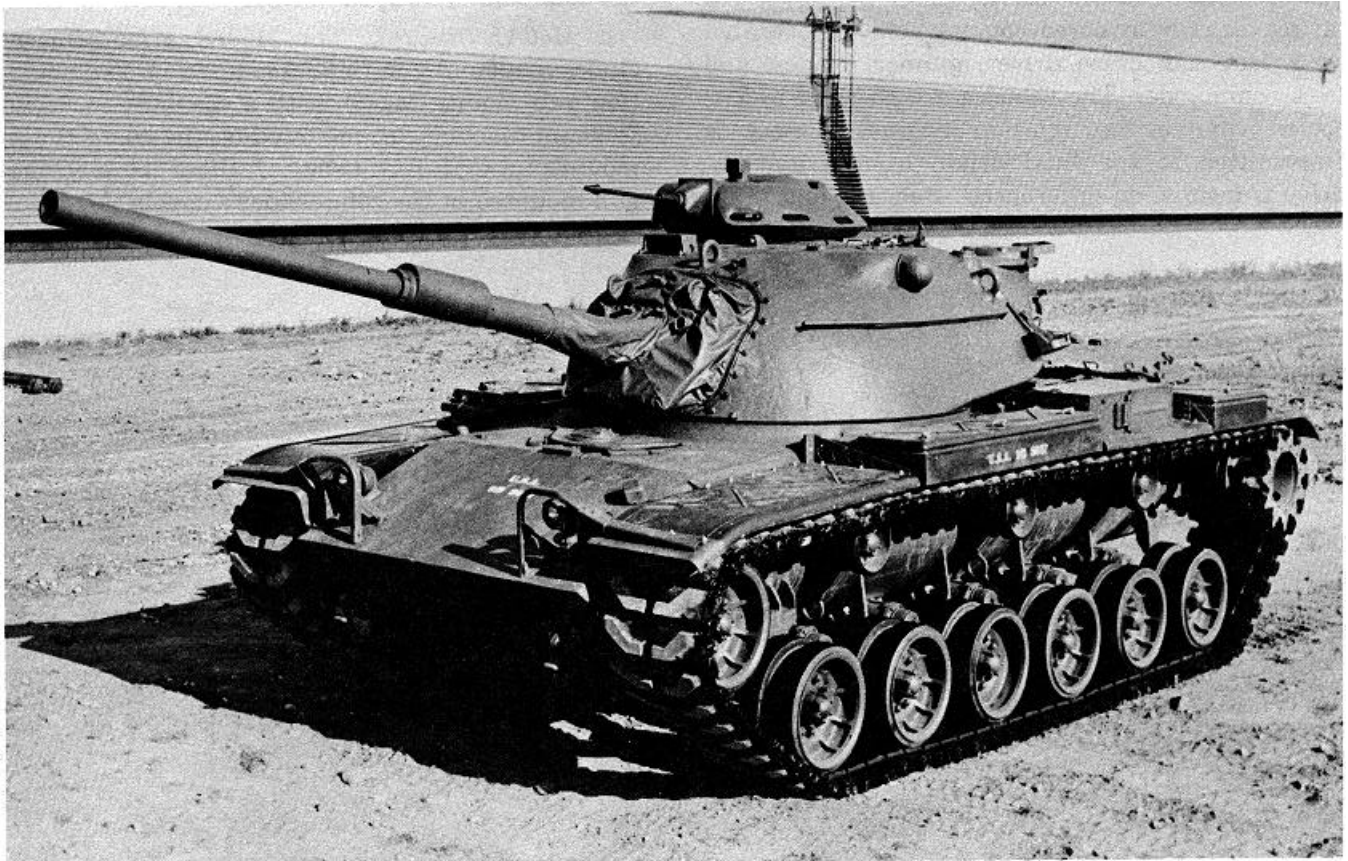

Figure 2-1. Tank, combat, full-tracked, 105-mm-gun, M60.
b. M60 (fig 2-1). The M60 armament includes a 105-mm gun (M68) mounted in a combination gun mount (M116), with a coaxially mounted 7.62mm machine gun mounted on the combination gun mount, and a caliber .50 machine gun mounted in the commander's cupola (M19).